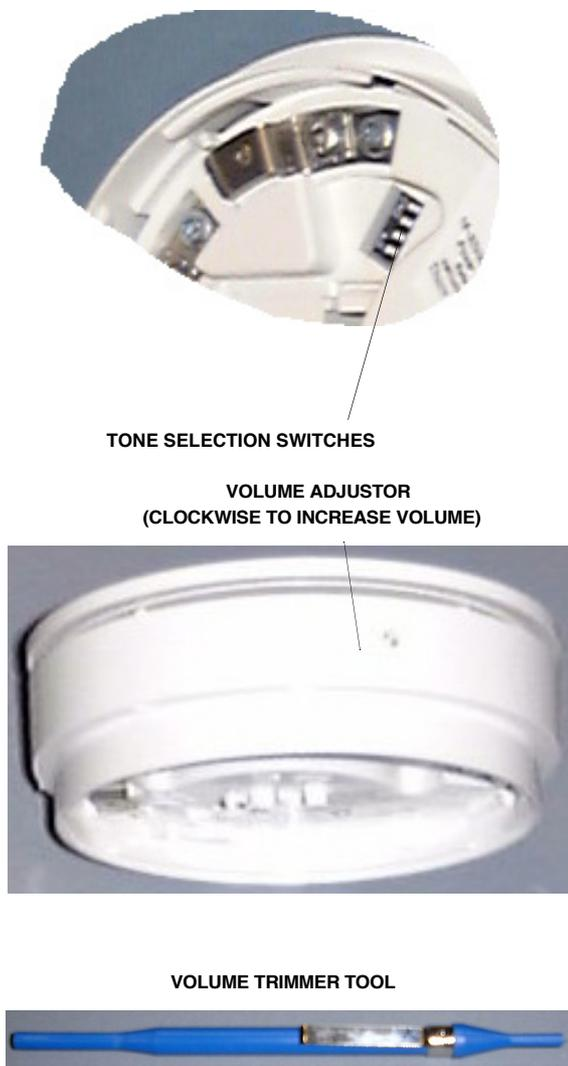

Fig. 2
- Volume - using a trimmer tool (S/C No. 517.050.015) (Fig. 2 refers).